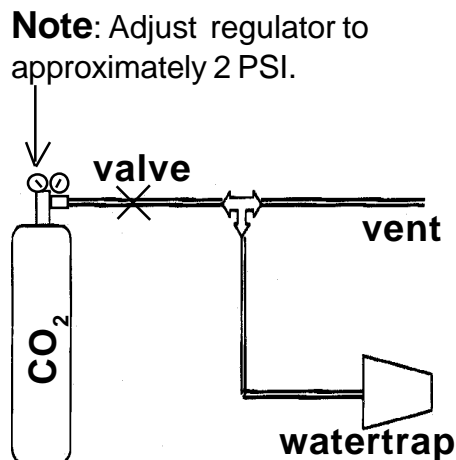

Figure 2.3.2.11
- 2.3.2.11 Attach the calibrated source of CO_2 gas to the CO_2 side-stream sampling tube as per Figure 2.3.2.11